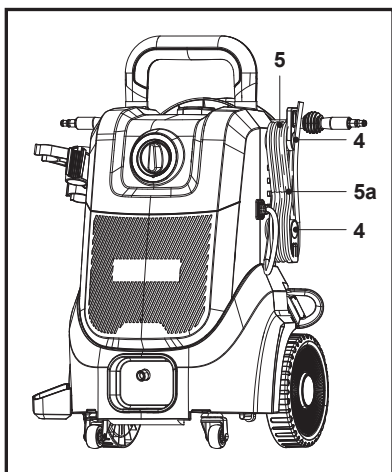

Fig. 25
2. Wrap the power cord (5) around the two cord anchors (4) and secure it in place with a supplied cord clip (5a) (Fig. 25).